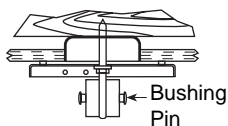

**Figure 7 - Assembling the hanger assembly**
- B. Loosen the set screw in the neck of the fan motor housing and hanger bracket so the pipe can be screwed in. Screw the pipe into the fan until tight (at least 4 1/2 turns). Feed wires through the canopy and the canopy insert and let the canopy rest on the neck of the motor. Slide the canopy insert over the pipe. Feed wires through the hanger bracket and screw the hanger bracket onto pipe until tight (at least 3 turns). Then use pliers to tighten both the hanger bracket and pipe together. Securely tighten the set screw in the bracket and the motor. Refer to Figure 7.